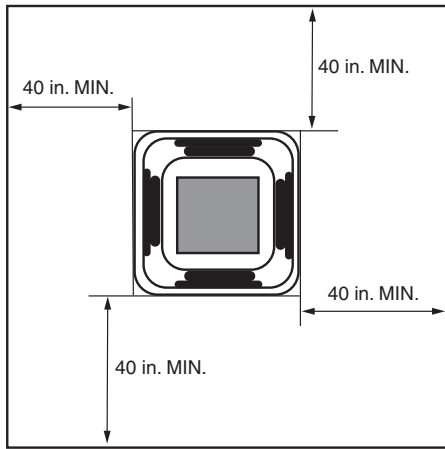

Fig. 4 — Distance from Wall or Obstruction
- The unit should be at least 3 1/4 ft from a wall or similar obstruction. See Fig. 4 below.